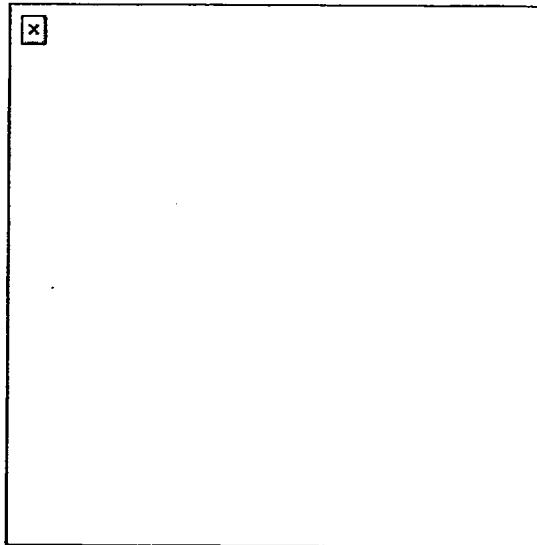
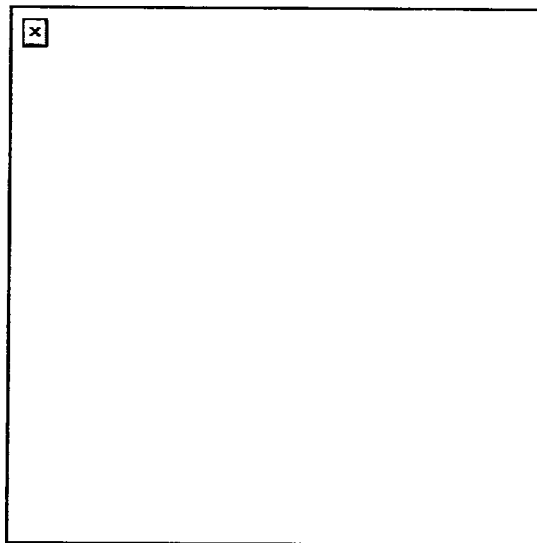

Figure 4. Sample 25-meter zeroing target for M16A1.
Figure 5. Sample 25-meter zeroing target for M16A2.
- b. Repeat Task Step 5 and Task Step 6 until the center of the shot group is 7 centimeters below the target aiming point as shown in Figure 4 and Figure 5.
EXAMPLE: From the center of the shot group in Figure 4, move the azimuth adjustment actuator 11 clicks to the left.
- From the center of the shot group in Figure 5, move the azimuth adjustment actuator 9 clicks to the left.